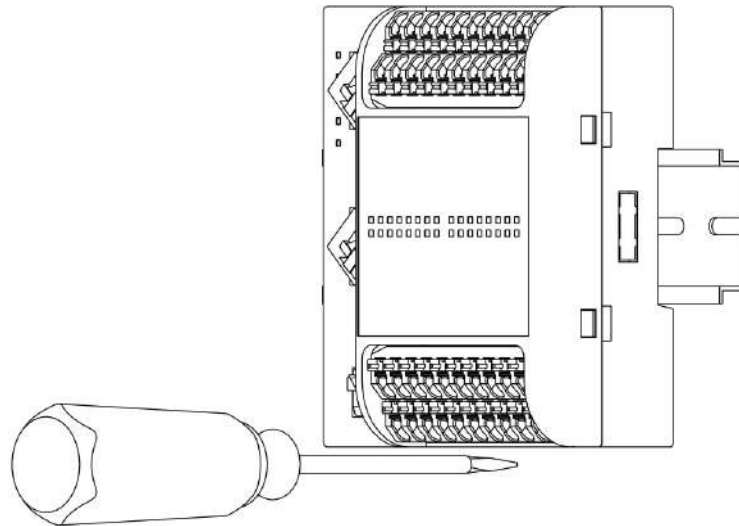

Figure 3-2 Module Installation
2. Hang the module on DIN35On the rail, use a flat-blade screwdriver to push the rail clip at the bottom into place and lock it, as shown in Figure 3-2 shown.